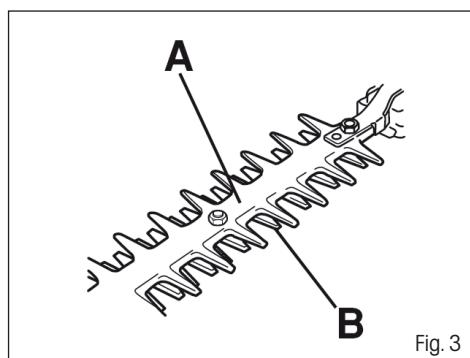

Fig. 3
- ❖ The blade guard (Fig. 3, point A) is intended to protect any part of the body from coming into contact with the trimmer blades (Fig. 3, point B).